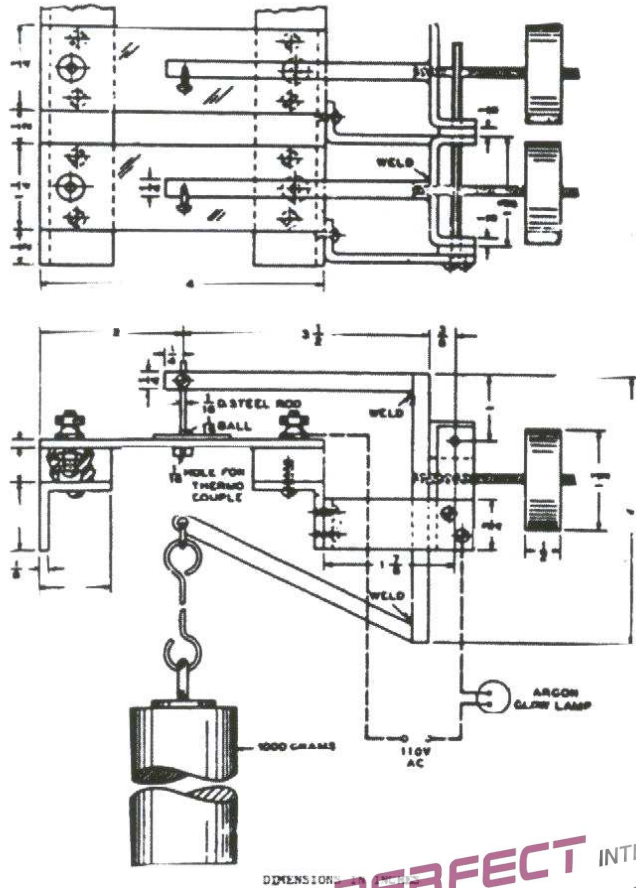

Figure 1. Penetration Tester
4.1 Penetration tester. A penetration tester as shown in Figure 1 is recommended.